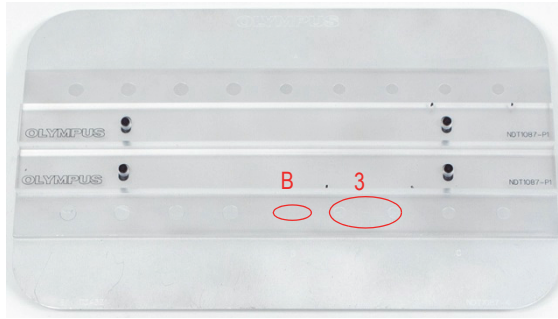

Figure 5-127 Position 3 on the standard
21. Place the probe on position 3 (see Figure 5-127 on page 217), and then press the A-LIFT NULL key (⊕^{A-LIFT}).